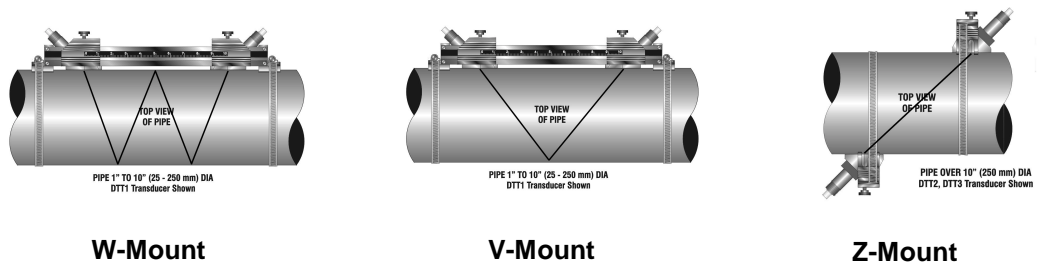

Figure 1.1
- B. Select a mounting method for the transducers, based on pipe size and liquid characteristics. See **Figure 1.1**. Select **W-Mount** for plastic pipes flowing clean, non-aerated liquids in the 1-3 inch [25-75 mm] internal diameter range. Select **V-Mount** for pipes of all materials and most liquids in pipe sizes from 1-10 inches [25-250 mm]. Select **Z-Mount** for pipes larger than 10 inches.
- B. Attach the transducer mounting rail or saddles to the pipe at the location(s) determined in Step 1. Refer to **Figure 1.1** for proper orientation.